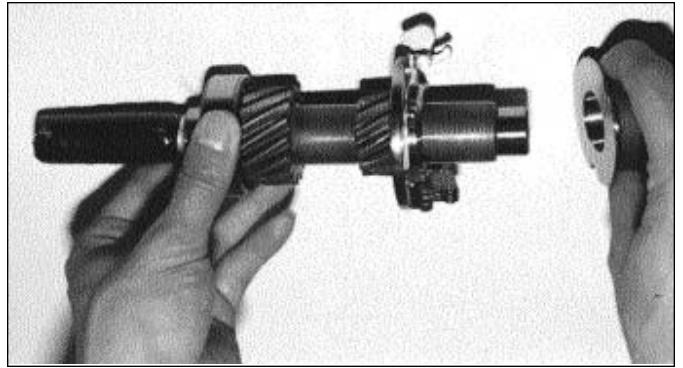

Figure 29 - Input Shaft Assembly
10. To disassemble input shaft, remove governor sleeve and bearing. A puller will be required to remove bearing. Use a new bearing when reassembling. See Figure 29.